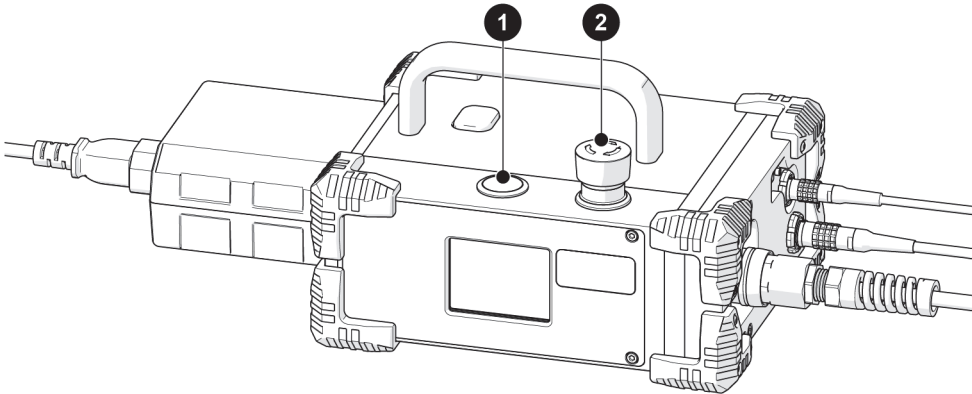

Figure 4-2 Power controller
3. Locate the red emergency off push-button on the power controller. Rotate this button clockwise to unlatch item #1 (see Figure 4-2 on page 168).
The green push-button on the power controller activates the system (see item #1, Figure 4-2 on page 168).